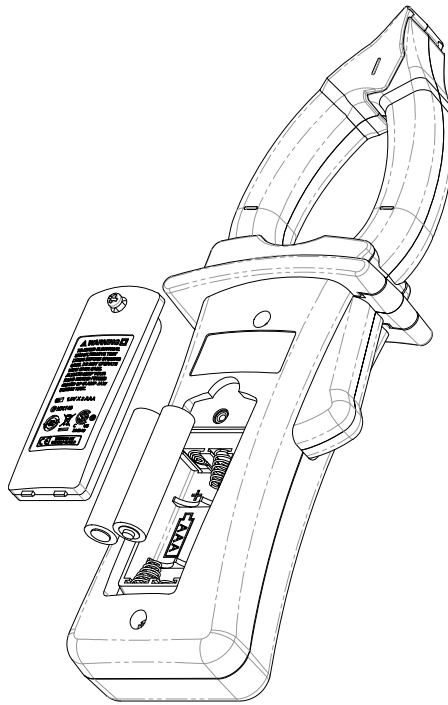

Figure 1-1 Installing the batteries
- 1 Open the battery cover.** Loosen the screw with a suitable Phillips screwdriver and remove the battery cover as shown in **Figure 1-1**.